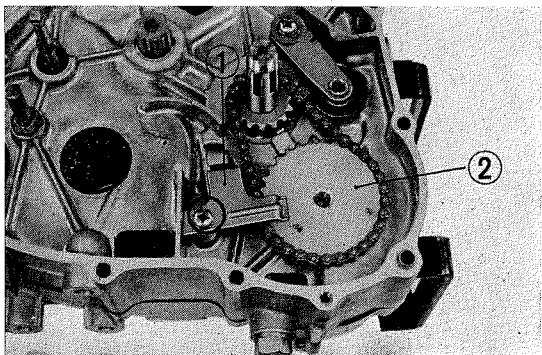

Fig. 44 ① Cam shaft set plate ② Cam shaft
8. Unscrew 6 mm screw to remove the cam shaft set plate and remove the camshaft together with the timing sprocket. (Fig. 44)